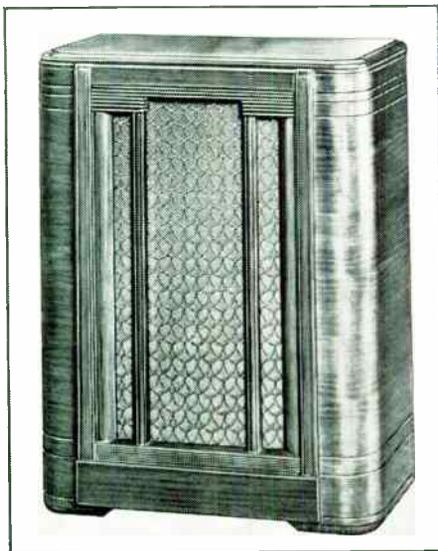

FIG. 5. SPEAKER CABINET OF 7 CU. FT.
1. The largest cabinet, Fig. 5, is 38 by 30 by 16 ins., and has a volume of approximately 7 cu. ft. A tuned port at the
It should be realized that there is no substitute for adequate cabinet size when good low-frequency performance is required. Accordingly large cabinets or enclosures having a volume of 8 to 10 cu. ft. are desirable for good performance down to 50 cycles. A wall can be used as an infinite baffle with good results if a minimum volume of 8 to 10 cu. ft. is provided at the rear. The large cabinet shown in Fig. 5 has a duplex speaker mounted in the top portion, with the port below. This is done so that high frequencies can be radiated directly, without having low obstacles blocking their path.